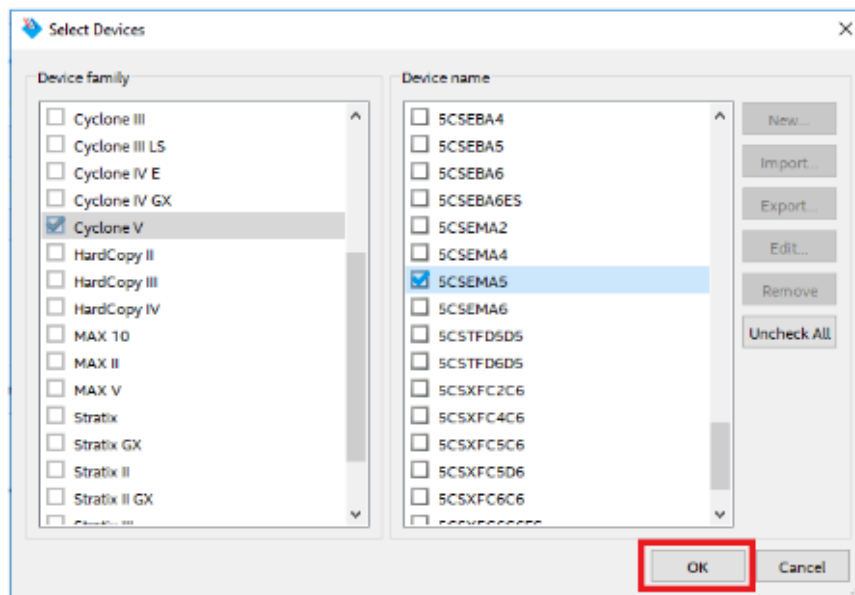

Figure 6: Convert SOF to JIC - Step 6
6. A window to select the device will open. Under “Device family” select “Cyclone V”, and under “device name” select “5CSEMA5”, as shown in Fig. 6.